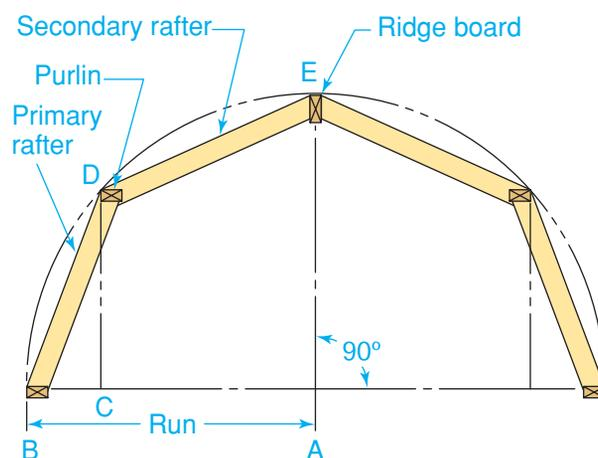

Figure 17-32 Gambrel Roof
The roof may also be laid out full size on the subfloor, as shown in **Figure 17-32**. Use the run of the building (AB) as a radius and draw a semicircle. Draw a perpendicular line from point A to intersect the semicircle at E. This locates the ridge line. Find the height of the walls from the plans. Draw